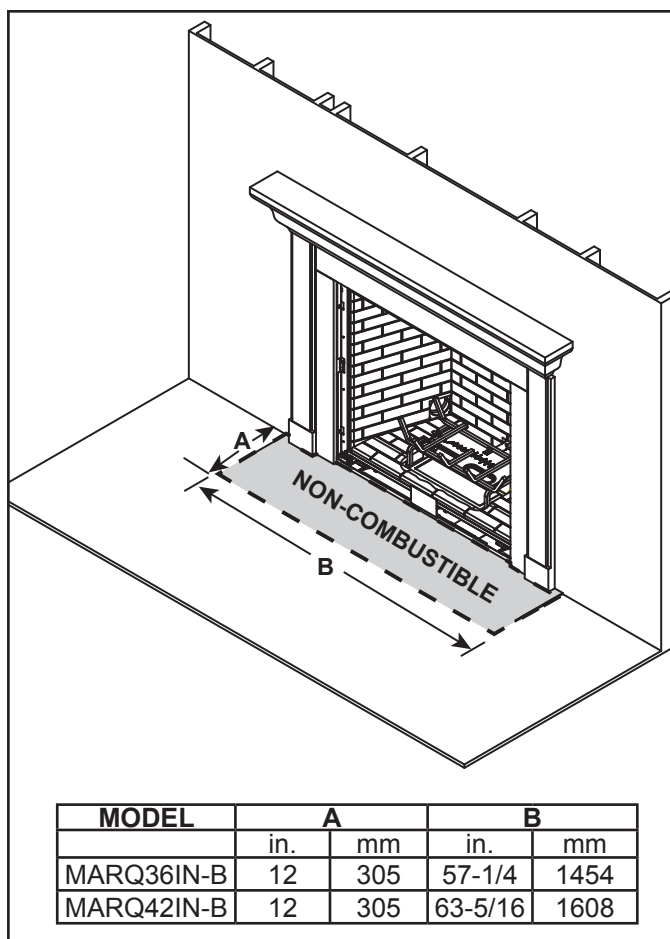
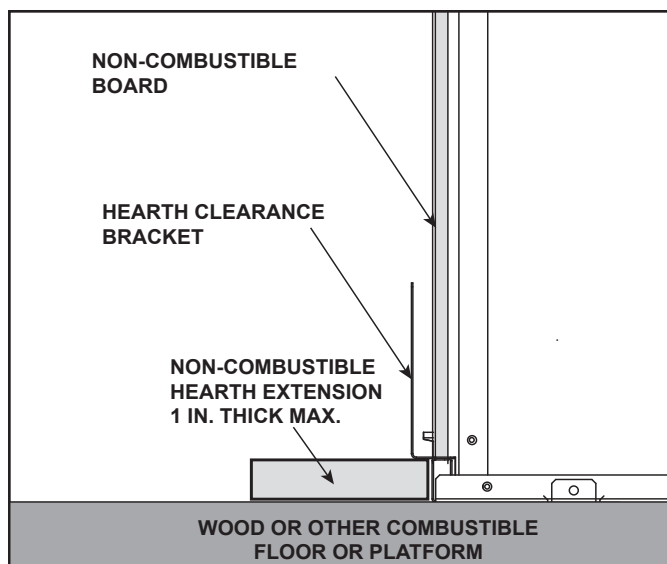
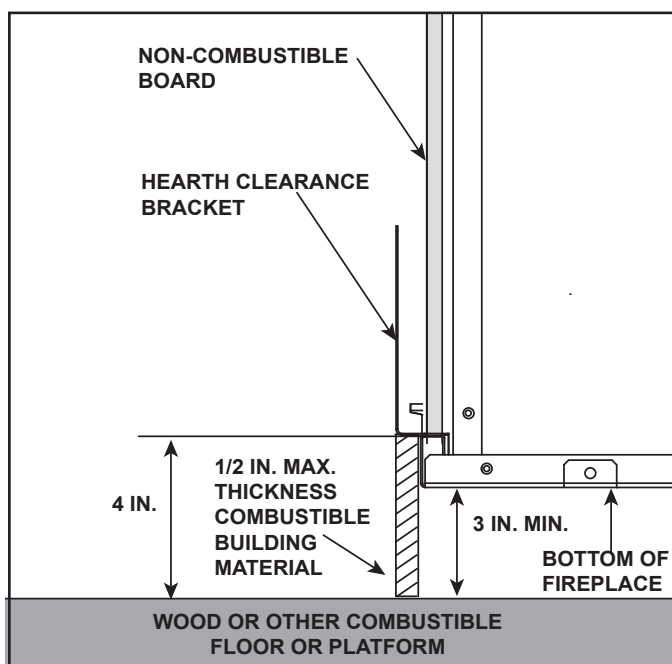

Figure 3.8 Non-Combustible Hearth Extension Dimensions
Figure 3.9 Appliance Installed on Combustible Surface
Figure 3.10 Appliance Raised a Minimum of 3 Inches Above
- Hearth extension must be non-combustible and serves to protect combustible floors in front of appliance. See Figure 3.8 and Figure 3.9.
- The base of the fireplace may sit on a combustible surface. See Figure 3.9. The area in front of the appliance must be protected by a non-combustible hearth extension, unless the appliance is raised a minimum of three inches above the combustible floor or hearth. See Figure 3.9 and Figure 3.10.
- If a hearth greater than one inch in thickness is desired, the appliance must be raised by the equivalent height to ensure that the hearth extension does not interfere with the installation of the glass assembly required for fireplace operation. See Figure 3.9.